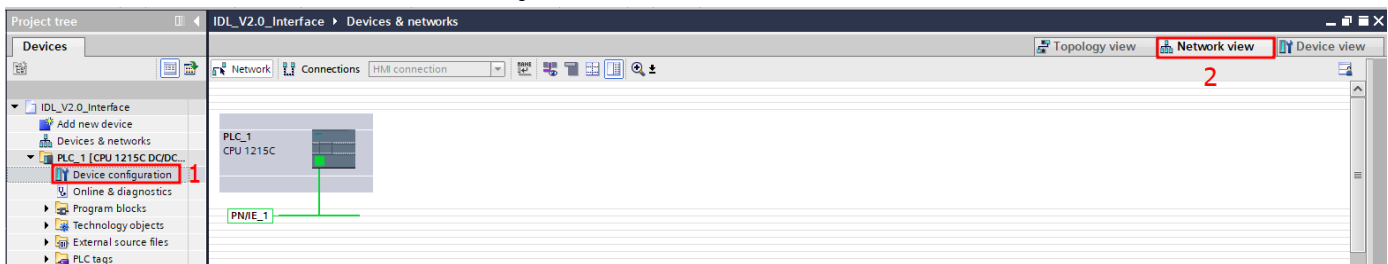

Figure 6: Device Configuration > Network View
10. Go to “Device configuration” then “Network view,” Figure 6.